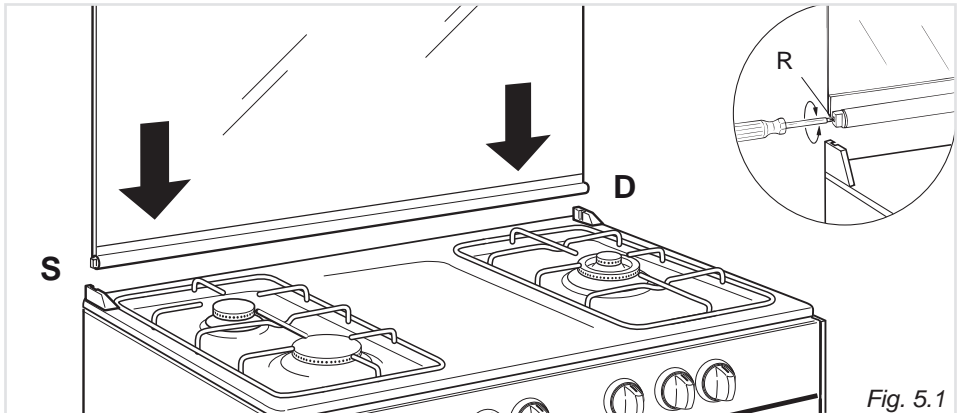

Fig. 5.1
- The right housing must receive the hinge marked “D” while the left housing must receive the hinge marked “S” (fig. 5.1).
Lower the lid and check the correct balance. While opened at 45° it should hang up. The springs of the hinges can be adjusted if necessary by turning the screws “R” clockwise (fig. 5.1).